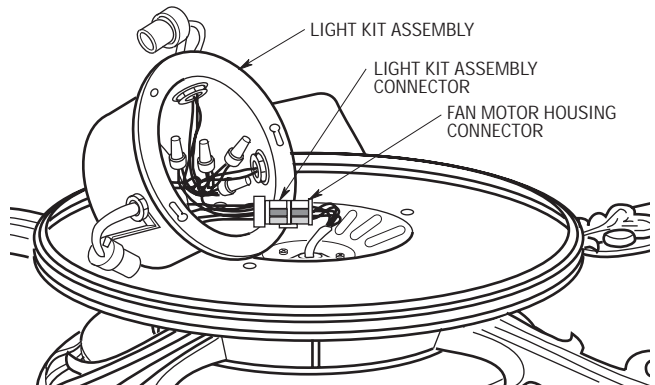

Figure 5
- 7. Engage the light kit assembly connector to the fan motor housing assembly connector (Figure 5). The two connectors are keyed and color-coded and must be mated correctly (color-to-color) before they can be engaged. Make sure the connector latch closes properly.